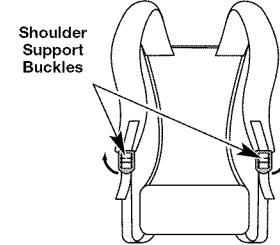

Fig. 13
- Pull up on the bottom tabs of the shoulder support buckles to loosen the shoulder supports (Fig. 13).